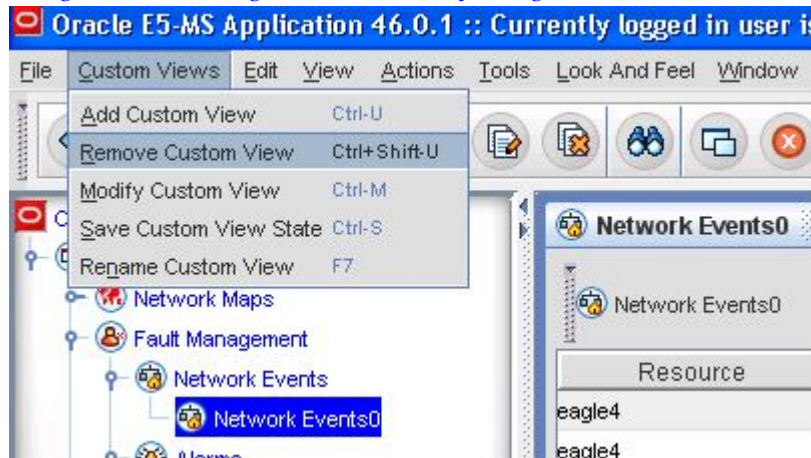

Figure 113: Deleting a Custom View By Using Menu Bar
- From the **Custom Views** menu in the top menu bar, choose **Remove Custom View** as shown in *Figure 113: Deleting a Custom View By Using Menu Bar*.